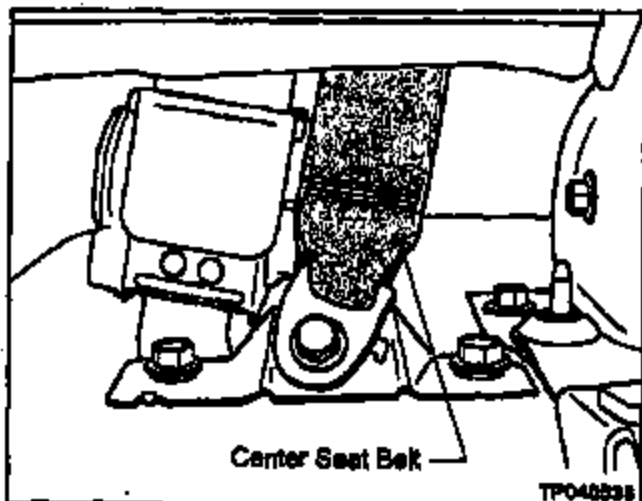

Figure 26
27. Make sure the center seat belt is positioned under the seat as shown in Figure 26.